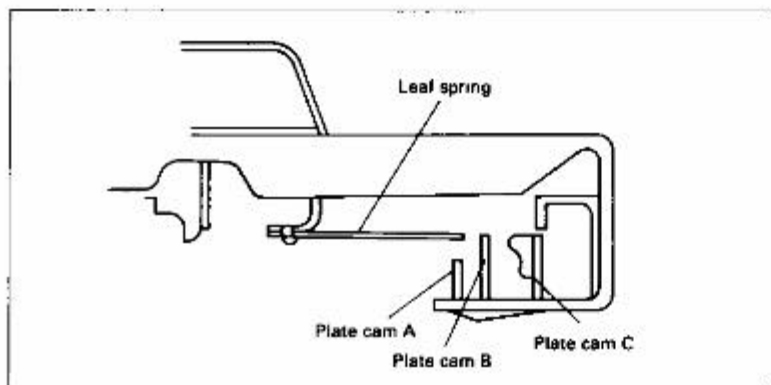

Fig. 5-7
- 2-1. By referring to Fig. 5-7, adjust the tip of the leaf spring to the same level as that of the plate cam B.